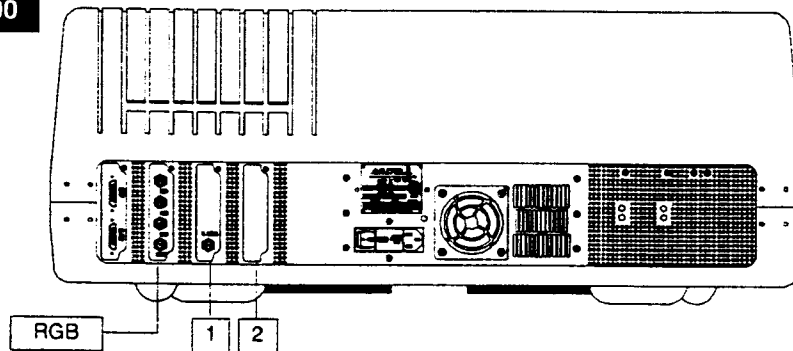

FIGURE S5-1.
- STEP 1. Please refer to Figure S5-1 for the proper optional module slot position.